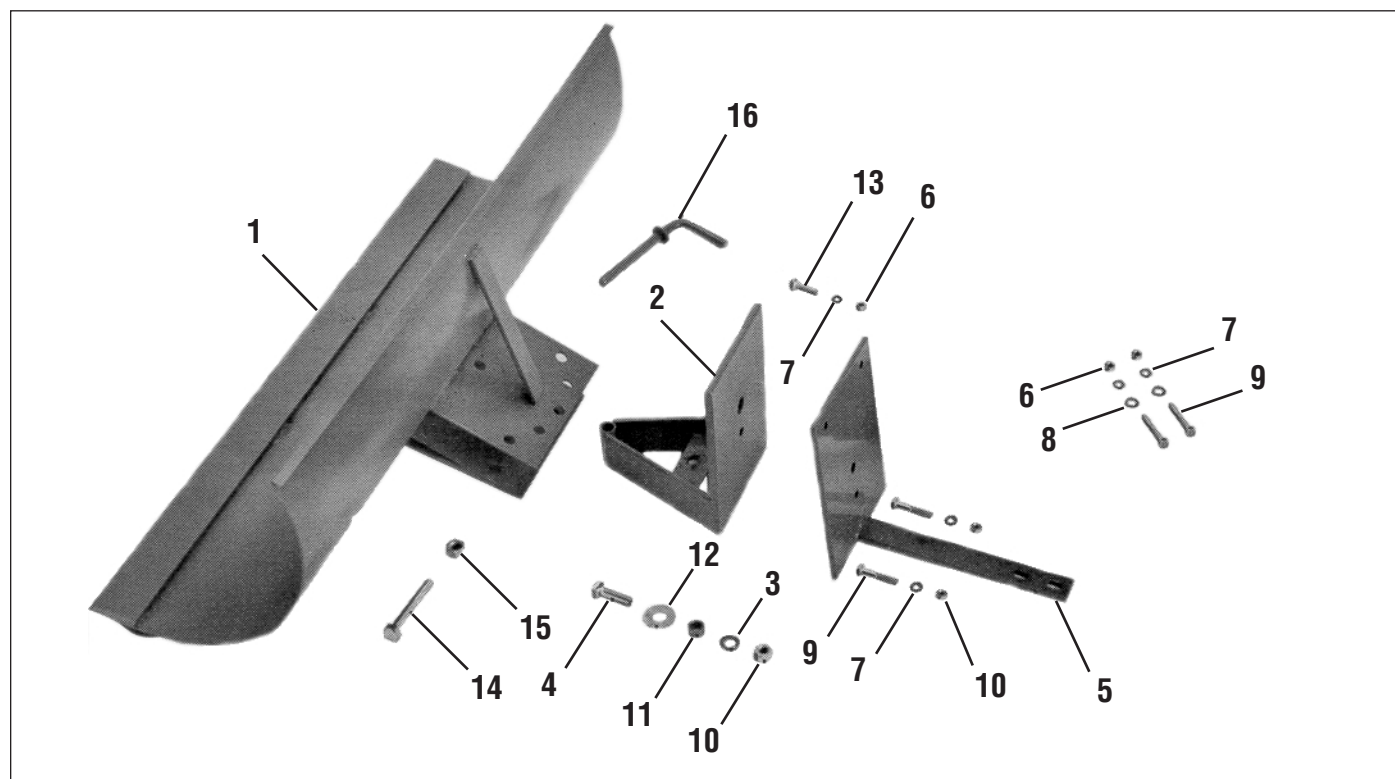
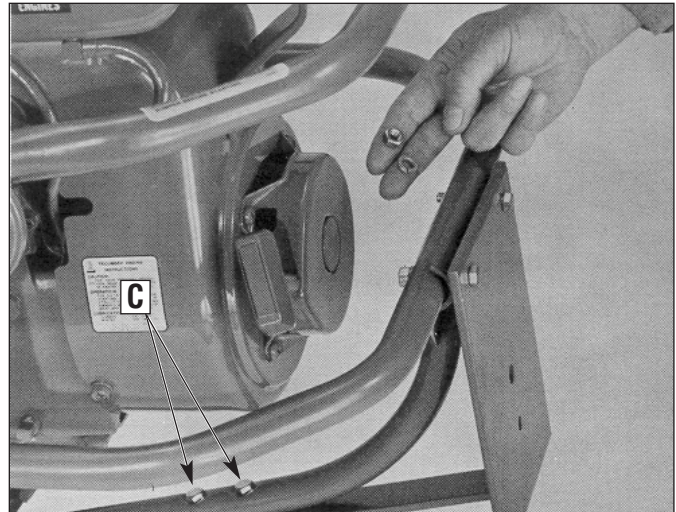

Figure 1: PARTS LIST
Figure 4: ATTACHING THE BLADE MOUNTING BRACKET
2. Using the hardware included in this attachment, install the Blade Mounting Bracket (5, Figure 1) to the lower bumper with two nuts (6, Figure 1), two lock washers (7, Figure 1), two flat washers (8, Figure 1) and two 5/16"-18 x 1-3/4" screws (9, Figure 1) included with this attachment.
3. Secure the bottom portion of Blade Mounting Bracket to the Bottom Brace with with two nuts (6, Figure 1), two lock washers (7, Figure 1) and two 5/16"-18 x 1-3/4" screws (9, Figure 1) included with this attachment (C, Figure 4).